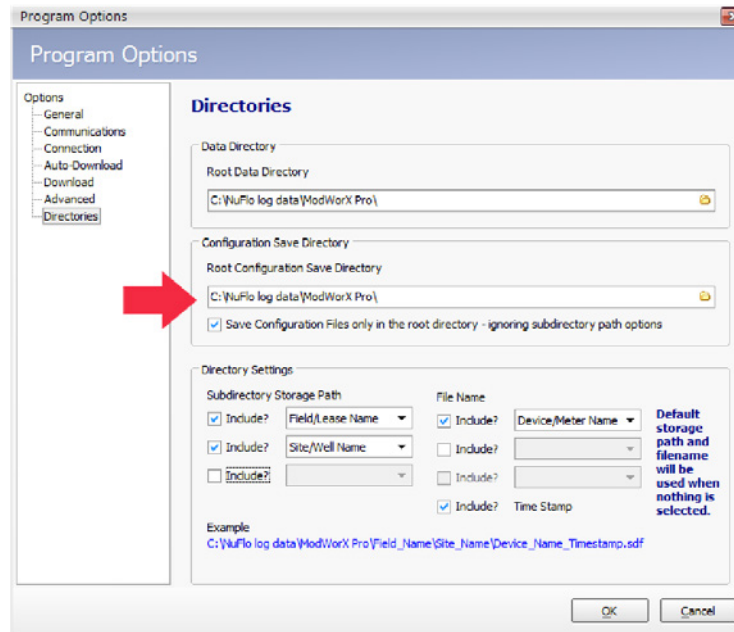

Figure A.26
4. To change the directory to which configuration data is saved, click in the Configuration Save Directory portion of the dialog (Figure A.26, page A-24) and type the desired filepath or click the Folder icon to browse to the desired directory.